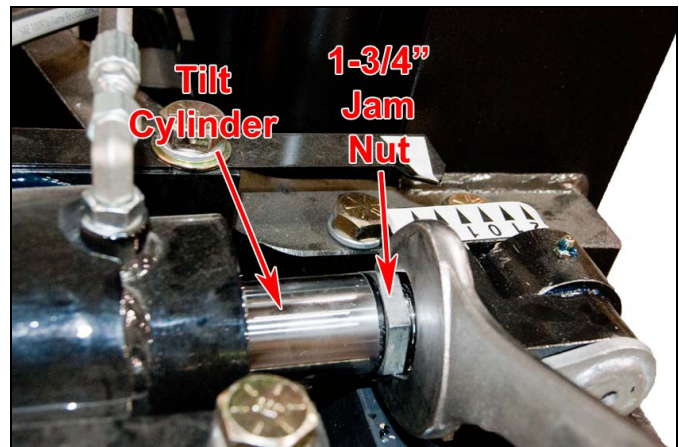

Figure 2-11: Tilt Cylinder Adjustment
7. Loosen tilt cylinder jam nut using a 1-3/4" open end wrench. See Figure 2-11.